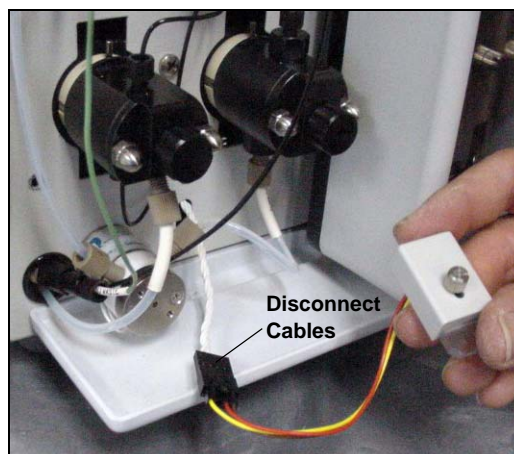

Figure 5-28. Leak Sensor Cable
5. The cable attached to the leak sensor is connected to a matching cable inside the ICS-2000. Continue pulling the cable until the connectors for the two cables are outside of the panel (see Figure 5-28).